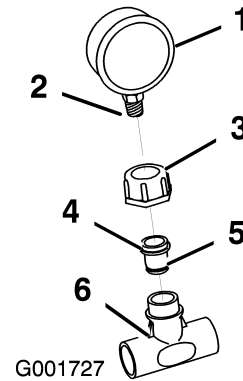

Figure 13
- Wrap the pressure gauge threads with Teflon tape. Install the small plastic nut and reducer assembly to the pressure gauge. Use a hex wrench to screw the reducer assembly to the pressure gauge (Figure 13).
- Install the pressure gauge assembly to the plastic tee (Figure 13).